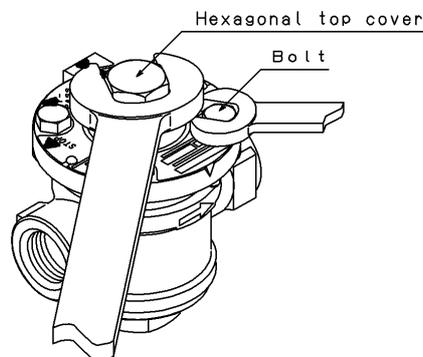

Fig.8
- (1) To disassemble the product, position the cock at “STOP” or “BY-PASS.”
- (2) Unscrew the four bolts, keeping the cock from moving by holding the hexagonal top cover (nominal size: 24 mm) with an optional handle, a spanner or a monkey wrench as shown in Fig. 8.
- (5) Tighten the four bolts evenly with the torque specified in the table below, keeping the cock from moving by holding the hexagonal top cover (nominal size: 24 mm) with an optional handle, a spanner or a monkey wrench as shown in Fig. 8.